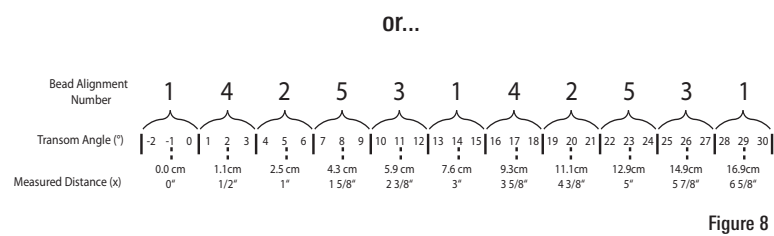
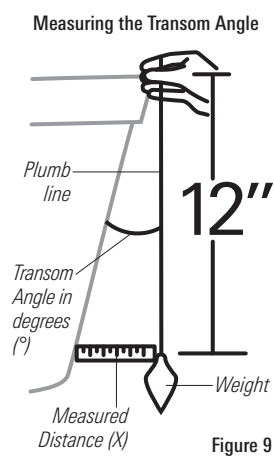

Figure 8
Figure 9
- 1a. If you already know your transom angle, refer to the chart below for the initial position to use to set the ratchets (Figure 8). If your transom is angled at 14 degrees (a common transom angle for many boats) use position 1 for the ratchets. In either case, go to step 2. If you do not know your transom angle, go to step 1b.
- 1b. If you do not know your transom angle, measure it using a plumb line (weighted nylon string or monofilament line) exactly 12 inches long. Hold the top of the plumb line against the top of the transom with your finger, and wait until the line hangs straight down (Figure 9). Using a ruler, measure the distance from the **bottom** of the plumb line to the back of the transom, then use the chart (Figure 8).
NOTE: It is important to take your measurement in the location shown in Figure 9, from exactly 12 inches down from the top of the transom.